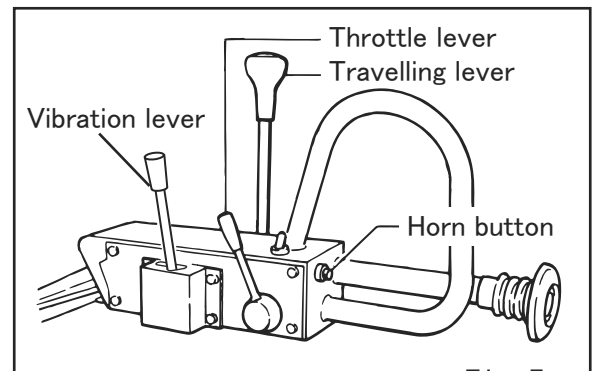

Fig. 7
- Check each lever and wire (travel, vibration, throttle) for proper function.(Fig.7)
- Press horn button to check for proper function. (Fig.7)
- With throttle lever fully opened, increase the engine rotation. (Fig.7)
- With travel lever and vibration switch placed in neutral and OFF position respectively, return throttle lever to START position before conducting cool down run for 3 to 5 minutes. (Fig7, 8)